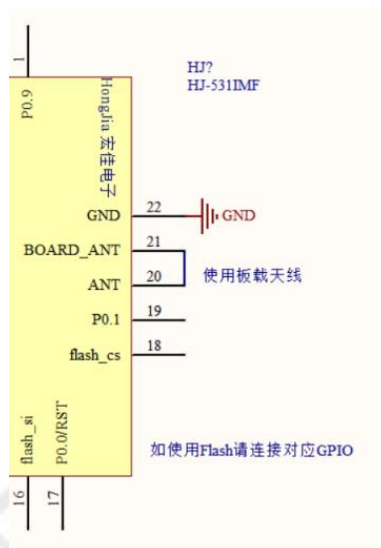

Figure 3.1
① An internal matching circuit has been integrated. Directly connecting PIN20 and PIN21, the built-in antenna of the module can be used. However, the transmission distance is relatively short. The wiring method is shown in Figure 3.1.